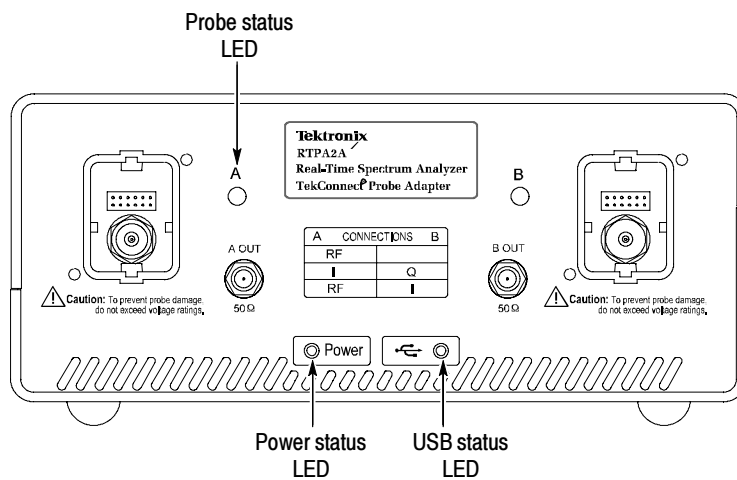

Figure 6: Check for lighted LEDs
3. On the probe adapter, visually check that the LEDs are lighted green. The status LEDs on the probe adapter are lighted only when a probe is attached. The LED locations are shown in Figure 6.